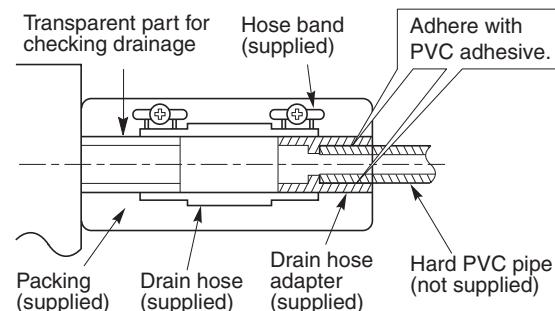

Fig. 1-74
- Prepare standard hard PVC pipe for the drain and use the supplied hose band to prevent water leaks. The PVC pipe must be purchased separately. When doing this, leave a gap between the drain socket of the unit and the PVC pipe to allow the drainage to be checked. The transparent drain pipe allows you to check drainage. (Fig. 1-74)
Tighten the hose clamps so their locking nuts face upward. (Fig. 1-74)